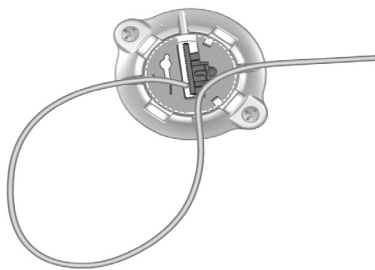

Figure 23. Placement of the DBS Lead into Additional Lead Exit Slots
11. **Optional:** Secure the DBS Lead to additional Lead Exit Slots for added strain relief (Figure 23).